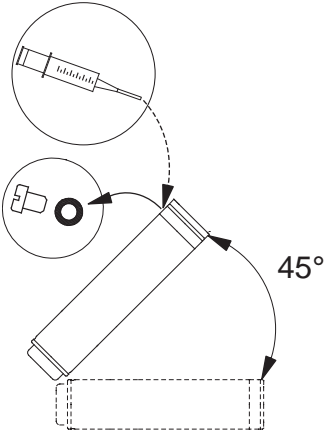

Fig. 3 Motor position during filling - MS 6000
- If the motor is delivered from stock, check the level of motor liquid before fitting the motor to the pump. See fig. 3.
- Check the level in connection with service. See fig. 3.
1. Position the submersible pump as shown in fig. 3. The filling screw must be at the highest point of the motor.
3. Inject liquid into the motor with the filling syringe until the liquid runs back out of the filling hole. See fig. 3.